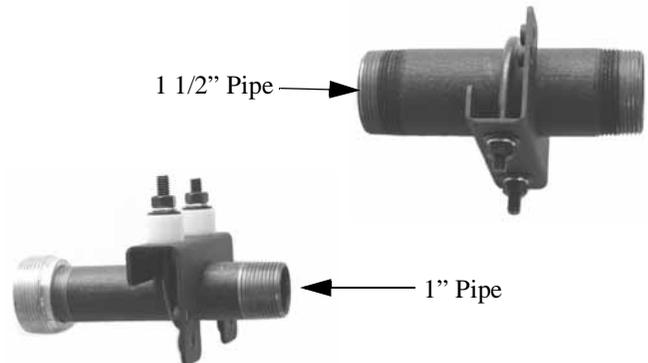

Figure 4. Fasteners on 1 " & 1 1/2" NPT
2. For 1 1/2" NPT, install the clamp at the desired height and secure using the U-bolt, 2 flat washers, 2 split lock washers and 2 5/16-18 hex nuts (see Figure 4).
3. For 1" NPT, install the clamp at the desired height and secure using the U-bolt, 2 Nylon spacers, 2 flat washers and two 5/16-18 hex nuts (see Figure 4).
We suggest the use of a Chief RPA and a CMA ceiling plate to secure the pipe to a structural member (see Figure 4). Install the RPA according to the instructions included with the RPA.